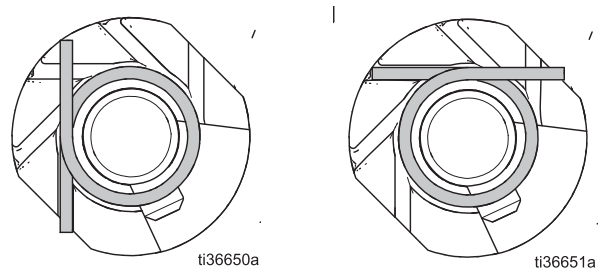

FIG. 3 Spring Position
4. Install the spring (5) over the stem and into one of the slots in the shaft assembly (6). The top arm of the spring should be in a nearly vertical or slightly counter-clockwise position to the handle (see FIG. 3).